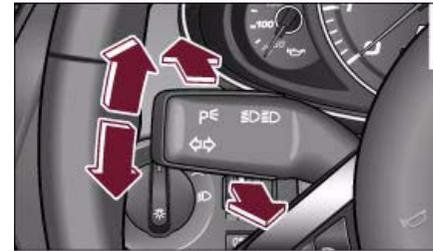

Fig. 51 Turn signal and main beam headlight lever
- Move the lever all the way up ⇒ fig. 51 to indicate right, or all the way down to indicate left.